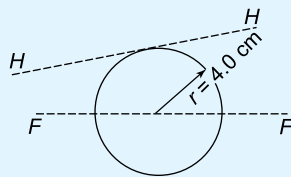

Figure 9.21
- For the circle shown in Figure 9.21, find the second moment of area and radius of gyration about (a) axis FF and (b) axis HH